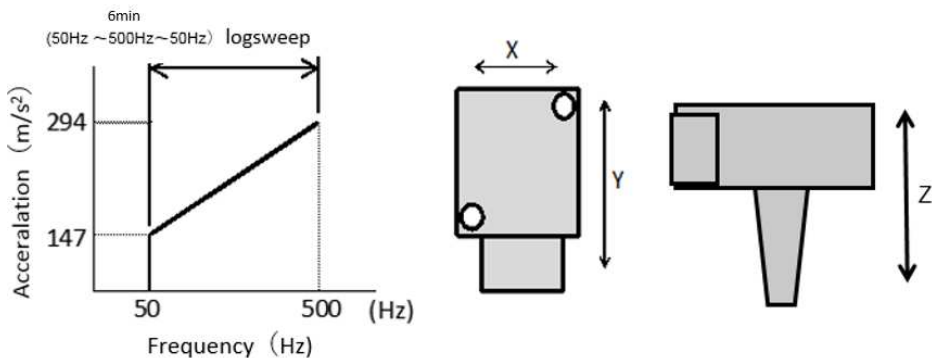

Fig5.振動条件 Vibration conditions
[試験条件] 加振条件 : Fig.5 による
[Test conditions] Excitation condition: According to the Fig.5
- 4)振動試験機の電源を入れ Fig5 の条件で振動させる。
- 4) Turn on the vibration test chamber and vibrate under the conditions shown in Fig5. Then, program start of the vibration testing machine and 5 V was energized by DC power supply, Measurement is performed by memory high coder for 6 minutes.